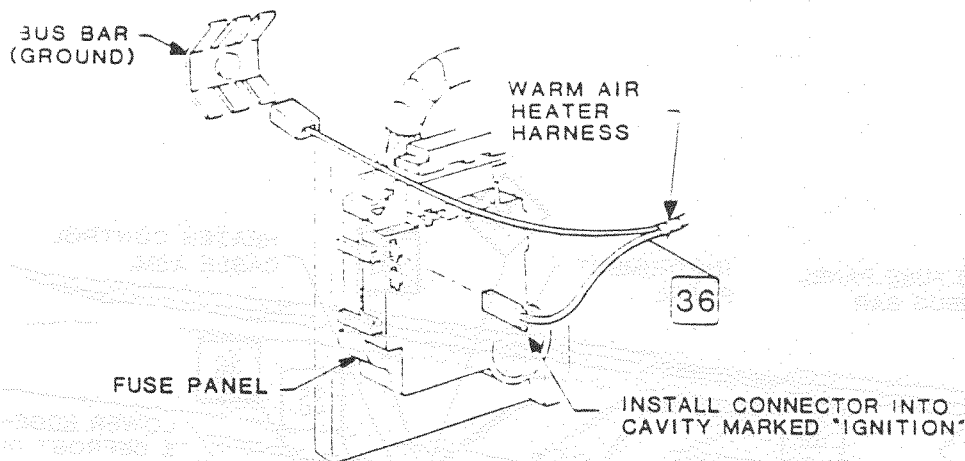

Figure 17.
96. Connect engine air heater wiring harness assembly to fuse box marked ignition and bus bar ground at parking brake area (Figure 17.).